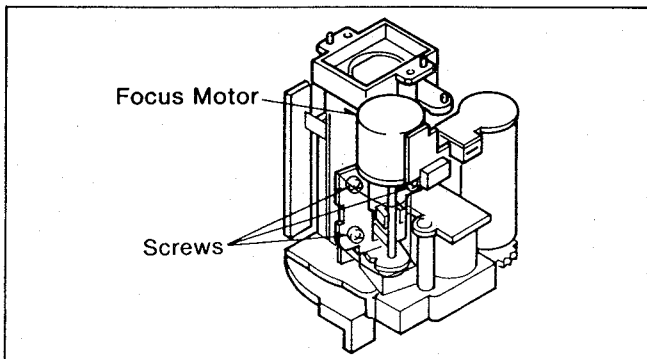

Fig. C4
- (1). Loosen 3-Screws and remove the Focus Motor as shown in Fig. C4.